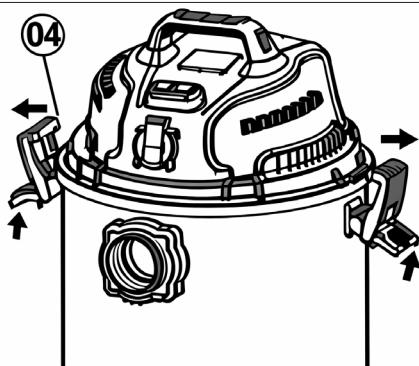

fig.7
- 6.1. To remove or install the top cover, disengage the securing clamps as shown in fig.7. This procedure is required to ensure the correct filter is fitted for the intended application.